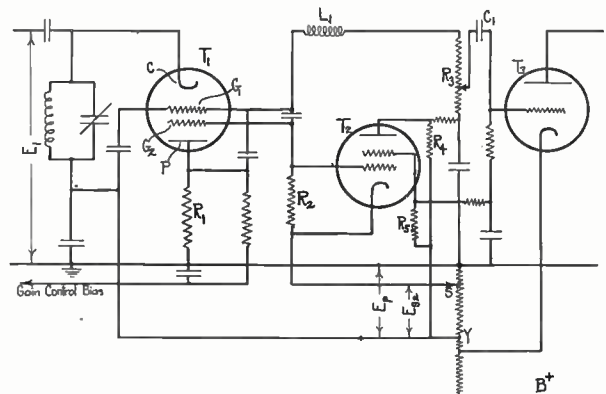
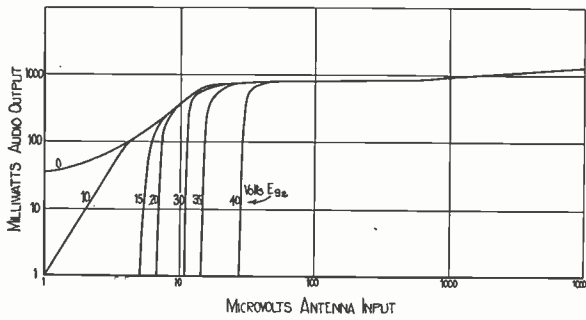

Fig. 4. Circuit diagram of detector-automatic control system using a relay tube to effect noise suppression.
Fig. 5. Measured output-input relations in a high-gain receiver with the control system of Fig. 4. ($m = 10\%$. E_{22} varied.)
Another development in the direction of satisfactory noise-suppression arrangements consisted in the use of three diode rectifiers in a common envelope in parallel at point (1) in the system of Fig. 2. Fig. 4 illustrates features in its operation that are to be identified with the functional diagram in Fig. 2. The cathode, C, of tube T_1 , the outer electrode P, and resistor R_1 form one rectifier which together with a steady delay bias, E_p , constitutes unit J of Fig. 2. The input E_1 to unit J, point (1) in Fig. 2, is also the input to a second rectifier circuit employing C, G_2 , and R_2 . This second rectifier circuit together with its delay bias E_{g2} and d-c. amplifier tube T_2 constitutes unit K of Fig. 2. The rectifier elements C, G_1 , and R_2 serve as a detector.
veloped across the independent output circuit resistors R_4 and R_5 . The output across R_4 is adjusted so that for peak carrier levels at E_1 less than E_{g2} a large delay bias is inserted in the third diode detector circuit of tube T_1 in series with R_3 . The transmission system after point (1), E_1 of Fig. 4, and leading to the audio output through diode element G_1 , choke L_1 , and resistor R_3 is thus rendered inoperative for the peak carrier levels less than E_{g2} . For values of E_1 greater than E_{g2} but less than E_p , the output across R_4 changes so as to remove the bias in series with R_3 , thus allowing the transmission system beyond E_1 and up to C_1 to regain its normal operation before the automatic gain control bias in R_1 begins. At the same time it will be noted that the elements of Fig. 4 constituting the unit K provide an additional output channel from resistor R_5 which leads to a control of bias in the grid circuit of the audio amplifier tube T_3 . Thus for weak carrier levels at E_1 less than E_{g2} the main transmission system beyond C_1 is also made inoperative and for values of E_1 in the range between E_{g2} and E_p , normal transmission beyond C_1 in the main system is restored. Adjustment of the arm S along the resistor between ground and the positive d-c. potential at point Y makes possible a selection of the carrier level at the antenna, below which no receiver output is obtained.
From the earlier remarks on the general requirements for satisfactory noise-suppression characteristics and reference to Fig. 2 it will be apparent that the input to tube T_2 may take the form of carrier frequency voltage, tube T_2 of Fig. 4 acting as a rectifier with a critical bias, in which case the d-c. output of T_2 should be obtained in an opposite sense to that shown if plate-circuit rectification is used. It is likewise apparent that the output of unit K may be made to act at any point or points in the main transmission system after (1), but that it is preferable to control the transmission beyond (1) at points where the voltage levels are as small as possible.
It is believed that a plot of receiver output power against antenna carrier input level for various settings of noise suppression bias should be of interest. Fig. 5 illustrates the operation of a high-gain receiver with normal automatic gain control supplemented by the noise-suppression circuit of Fig. 4 and is to be compared with the hypothetical case shown in Fig. 1. The carrier modulation was set at 10% and the various curves correspond to setting arm S of Fig. 4 at different positions, E_{22} thus varying from zero to a maximum value of 40 volts. With $E_{22} = 0$ considerable noise output is obtained at weak carrier levels, but E_{22} may be adjusted
It will be apparent from the experiment curve $E_{22} = 0$ of Fig. 5 that the usual automatic gain control action through unit J begins at an input of about 15 microvolts. The curve for $E_{22} = 40$ volts represents a condition in which the transmission beyond E_1 is not fully restored until the automatic control through unit J is well established. The effect of an additional five volts at E_{22} is thus greater going from 35 to 40 volts than in going from 30 to 35 volts because the carrier voltage at